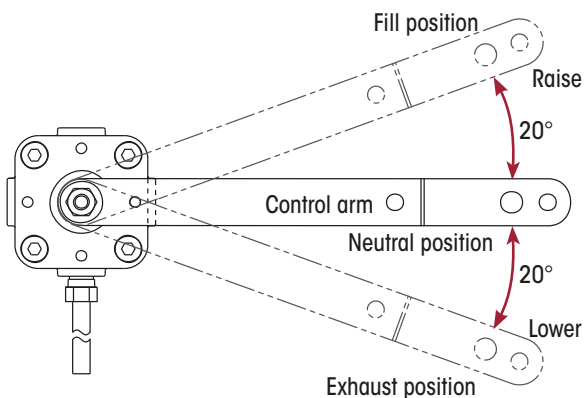

Figure 180: Ride Height Adjustment
9. Remove wooden pin and confirm the height control valve is properly installed by raising the control arm approximately 20 degrees above horizontal. (Refer Figure 180.) Air pressure should begin inflating the air springs. If the air springs do not inflate:
10. If the HCV correctly inflates the air springs, rotate the control arm downwards approximately 20 degrees below horizontal. (Refer Figure 180.) Verify that air is